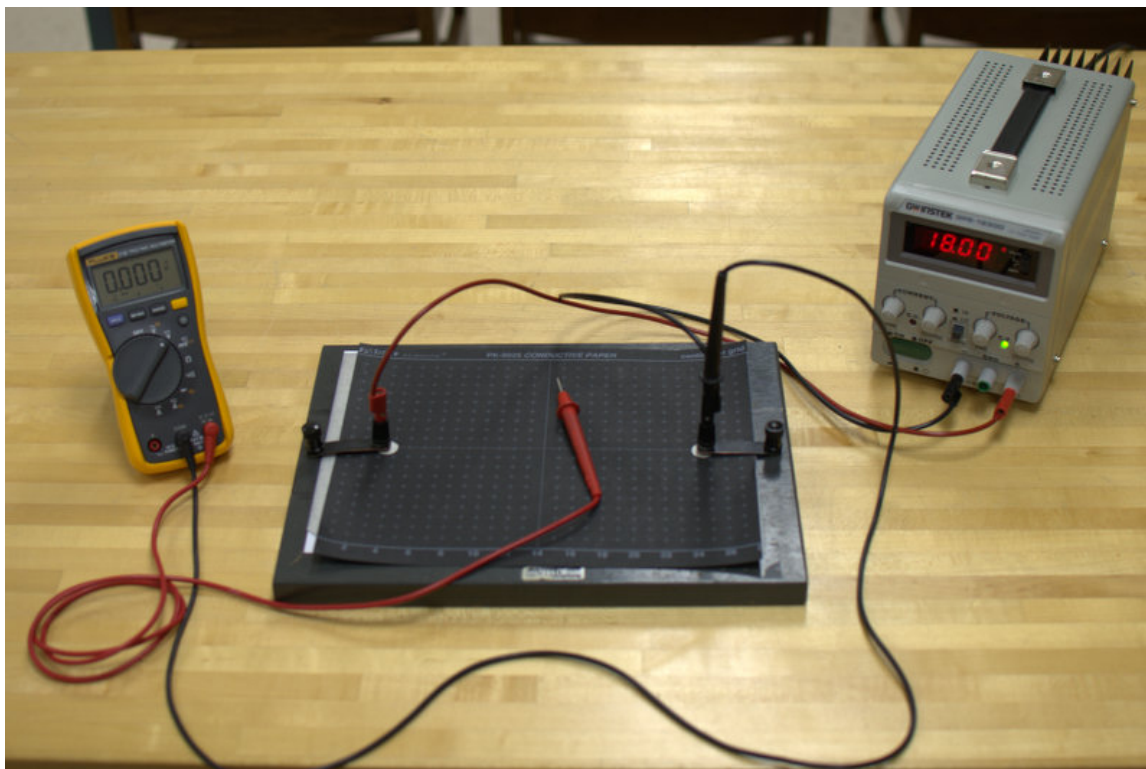

Figure 1: Experimental Setup
1. Place white paper on the field plotting board, then a piece of carbon paper (black side down). On top of those, place the conductive paper with a dipole electrode configuration (shown in Fig .1).
3. Using the power supply, place 18 volts across the terminals of the plotting board (as in Fig. 1). Check the quality of the electrodes you are using with the DMM to make sure there are no appreciable potential differences between various locations within the electrodes. If you find any, ask your TA to find you a new one or fix the silver paint quality.
Power supply; electrometer; plug-board; capacitors; cables with banana-plug connectors; cable with BNC connectors; BNC female to dual banana-plug adapter (Fig. 1).
Figure 1: BNC female to dual banana-plug adapter. Note the tab on right labelled “GND”. This indicates which side is electrically connected to the outer conductor of the BNC connector, which is often grounded.